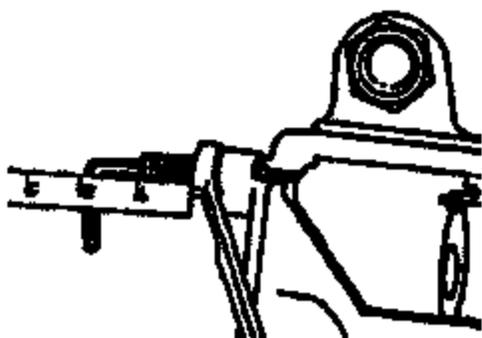

Figure 23
- Loosen the sealing nut and back off the adjusting screw until 1" (25.4mm) past the nut. Tighten the sealing nut against the housing (Figure 23).